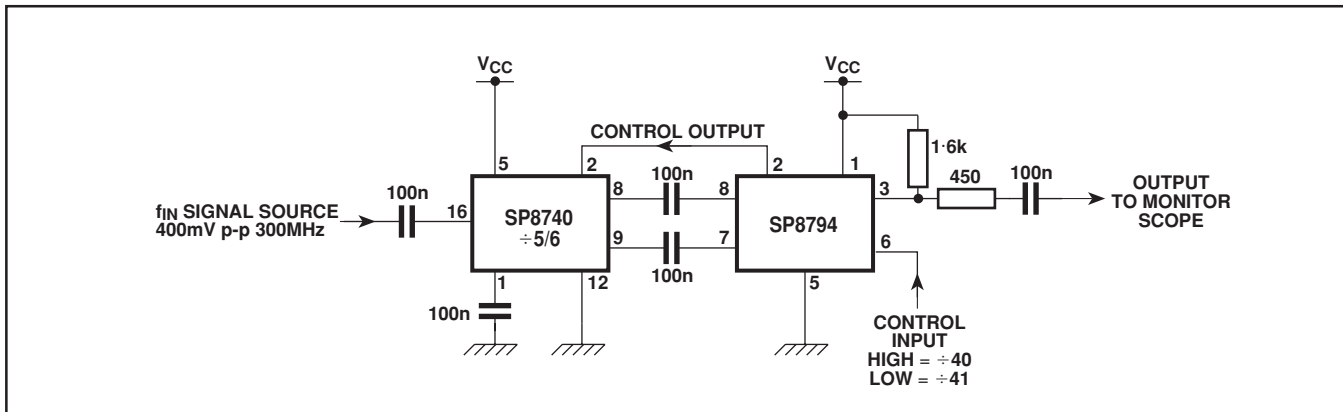

Fig. 4 Test circuit
1. The test configuration for dynamic testing is shown in Fig.4.
1. The device will normally be driven by capacitively coupling the inputs to the outputs of a 2-modulus divider, as shown in Figs. 4 and 5. The maximum frequency of the device when used as a controller is limited by the internal delays to 60MHz. However, when used as a ÷4 prescaler, it will operate at frequencies in excess of 120MHz, the maximum frequency being limited by saturation of the output stage.
6. The control output, which includes an internal 16kΩ pull-down resistor, is ECL compatible and will interface directly to ECL 2-modulus dividers such as the GPS SP8600 and SP8700 series as shown in Figs. 4 and 5.